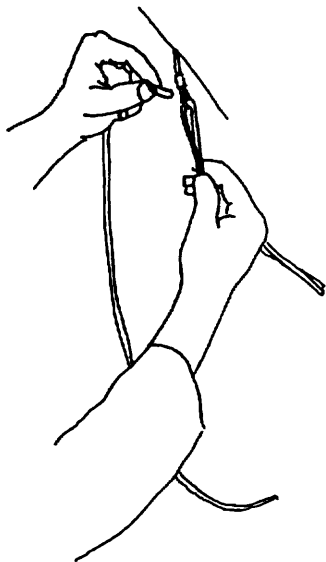

FIG 18
14) Finally, pass the free end of the leech line through the thimble in the crossbar wire a second time, in the same direction as the first time, and pull the leech line tight. (Fig 18).